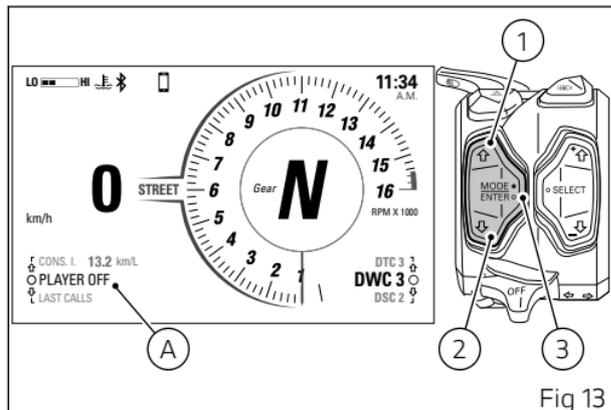

Fig 13
If the music player control is set to "OFF" (Fig 13), press the ENTER button (3) to activate it. With the music player control active, the display shows the title of the track currently being played on the connected smartphone (B), together with the available controls (C), and the "EXIT" indication preceded by the black arrow facing downwards (D).
The function is then shown as “PLAYER OFF” (Fig 13).